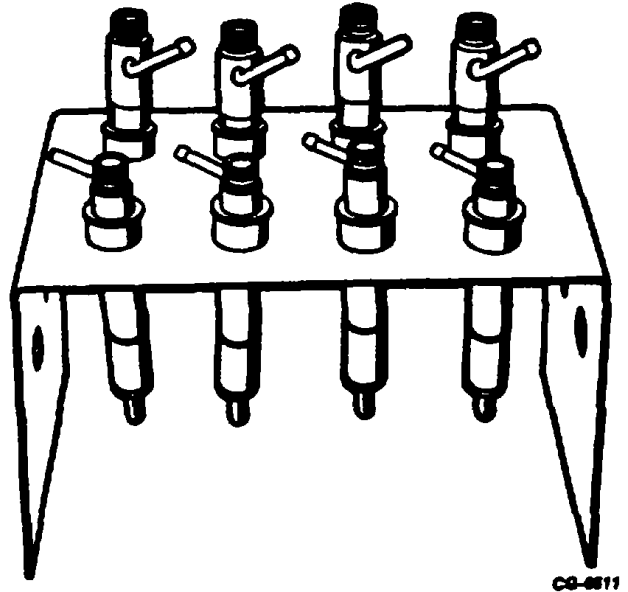

Figure 198. Nozzle Holding Fixture SE-2102
16. Place nozzle assemblies in a holding fixture (SE-2102) as they are removed from the heads. The fixture (Figure 198) is stamped with numbers corresponding to cylinder numbering of the engine. Use of this fixture permits replacing nozzles in their respective ports in the cylinder heads.